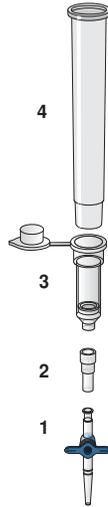

Figure 3. Assembly of components of the QIAamp DSP Virus Kit for vacuum processing of samples:
Ensure that you set up the Column Extender (EXT), QIAamp MinElute Column, VacConnector (VC) and VacValve correctly (see Figure 3).
5. Centrifuge the Lysis Tube (LT) for ≥ 5 seconds at full speed to remove drops from the inside of the lid.
6. Change gloves and open the Lysis Tube (LT) carefully.
7. Add 600 μl ethanol (96–100%) to the Lysis Tube (LT), close the lid, and mix thoroughly by pulse-vortexing for ≥ 15 seconds. Incubate for 5 minutes (± 1 minute) at room temperature (15–25°C).
8. Centrifuge the Lysis Tube (LT) for ≥ 5 seconds at full speed to remove drops from the inside of the lid.
9. Insert the QIAamp MinElute Column into the VacConnector (VC) on the vacuum system (see Figure 3, page 24). Insert a Column Extender (EXT) into the open QIAamp MinElute Column.